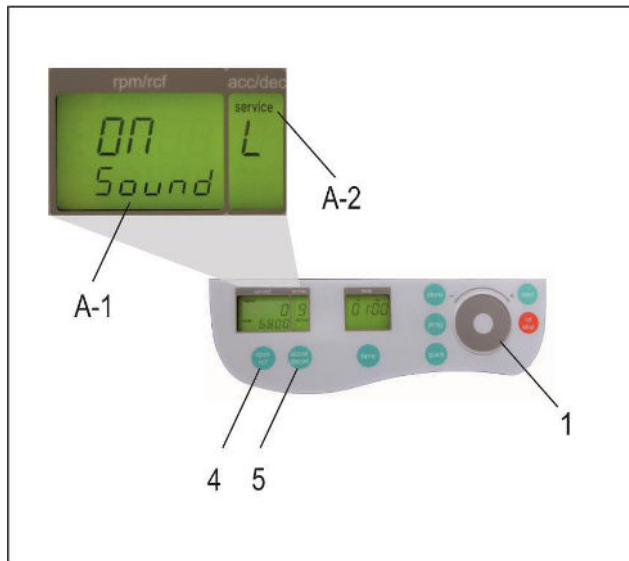

Figure 2
- All changed settings must be confirmed by the key, “start” (9). A confirmation screen will appear with the word, “store”, in the display “rpm/rcf” (A-1) - Only then the pre-selections are valid!
Proceed as illustrated, under point 1.8.2, to enter this program mode, press the key; "accel/decel" (5). In the display, "accel/decel" (A-2) flashes the word, "service". Select the letter, "L" with the control field (1). As a result, appearing in the display "rpm/rcf" (4), are the words, "On Sound". By pressing the key, "rpm/rcf" (4), the word "On" flashes, and the sound can be switched off with the control field (1), (see Figure 2).